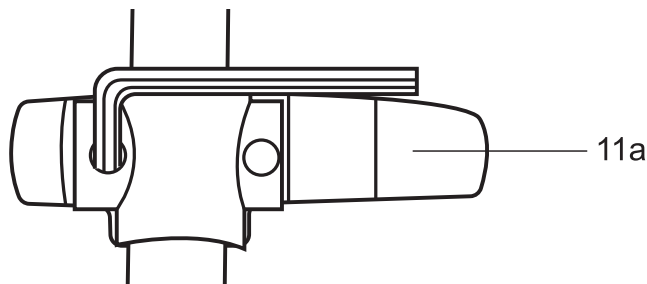

Fig. 11
2. Secure the auxiliary handle with bolts by 4 mm hex key (18) (Fig. 11).